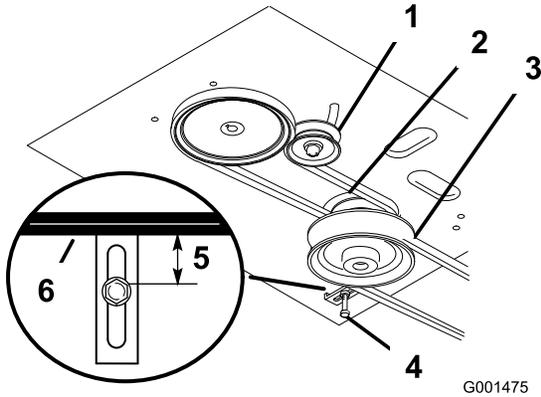

Figure 37
- Remove the mower belt (Figure 37).
- Loosen the pivot bolt enough to slide the idler pulley in the slot and remove the traction belt from the engine and the drive pulleys (Figure 37).
- Install the new drive belt around the engine and the drive pulleys (Figure 37).
- Slide the idler pulley in the engine frame to tension the traction belt (Figure 37).
- Install the mower belt (Figure 37).
- Check the belt guide under the engine frame for the proper adjustment (Figure 37).
13. Check the belt guide under the engine frame for the proper adjustment (Figure 37).